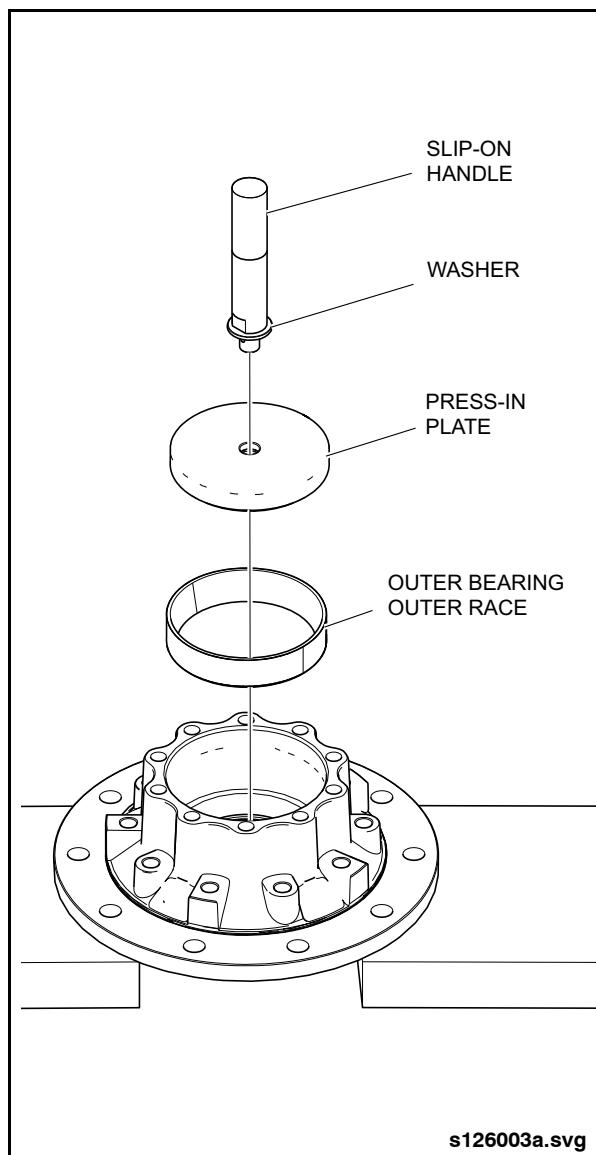

Fig. 2-27: Installing Outer Bearing Outer Race
3. Press in the bearing outer race as far as the stop with the cone facing outwards. See “Fig. 2-27: Installing Outer Bearing Outer Race” on page 27.